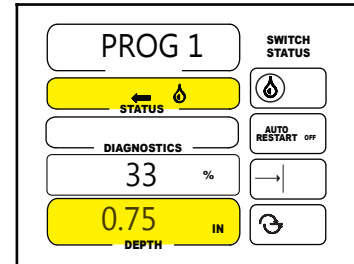

Figure 60-1
3. Set water on and depth of water for the sector. See figure 60-1.